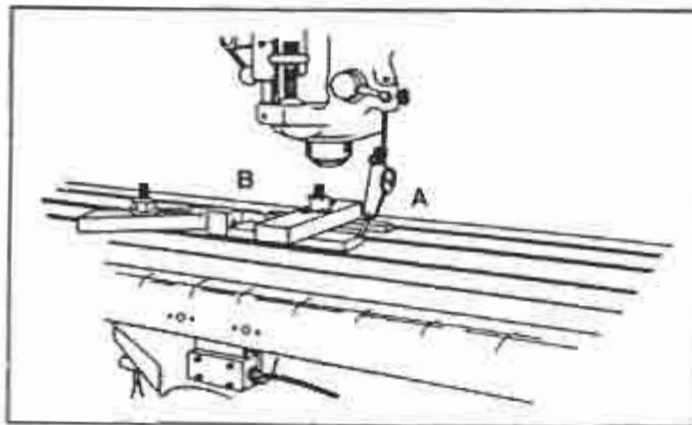

Figure 20a. Simplified Method for Measuring Machine Error.
#### Simplified Method (Figure 20a)
- 1) Mount a calibrated standard as shown in Figure 20a (the standard should have a recent certificate of accuracy calibration). Mount the standard at a height at which the work is normally placed.